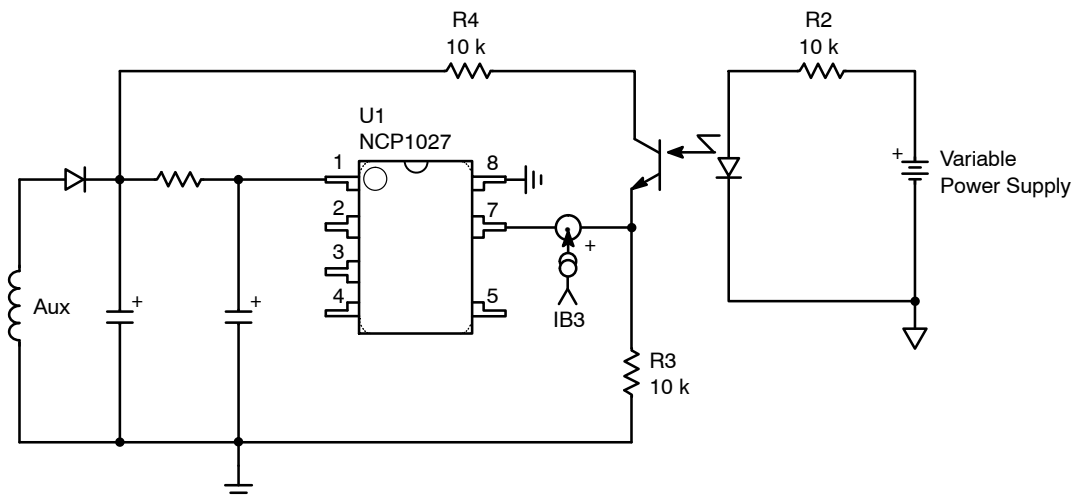

Figure 4. An Isolated Way to safely Inject Current into Pin 7 at High Line.
1. Configure your working power supply as suggested by Figure 4 or 5. These figures are purposely simplified for ease of understanding of the added circuitry. Figure 4 represents the safest way to run the measurement as the dc power supply injects current via an optoisolator without sharing the converter's ground. An amp-meter is inserted to read the current I_{b3} . Leave the dc bias to zero for now.